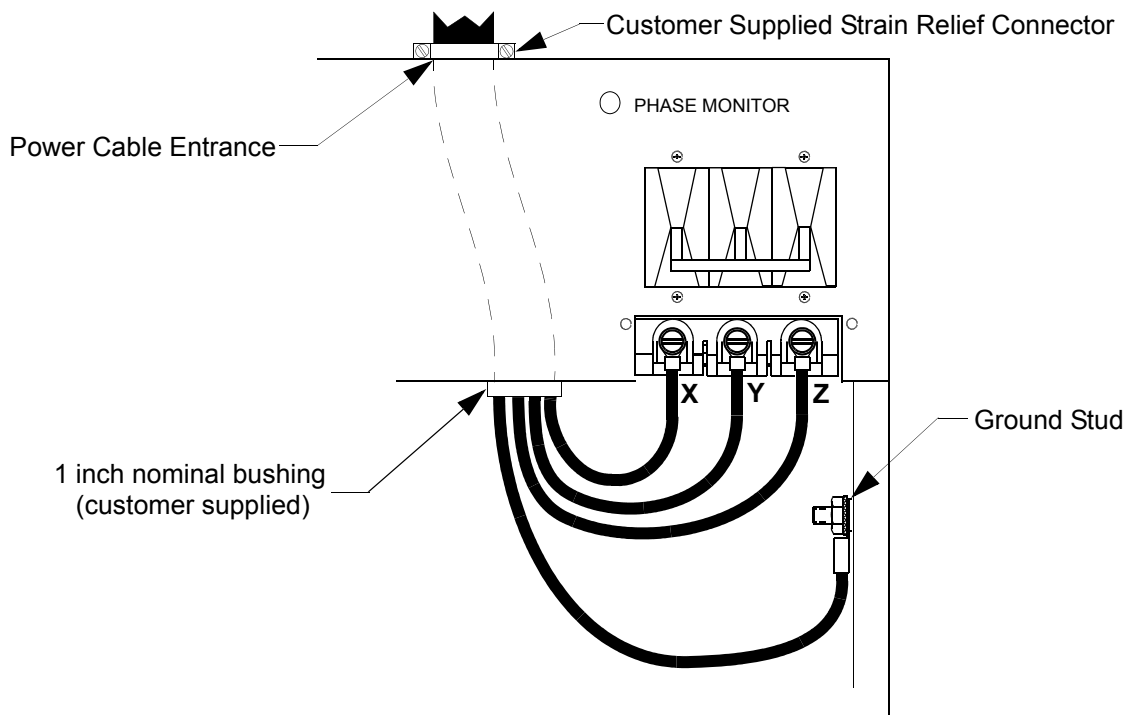

Figure 4-3: Power Cord Installation
- Install the cable into the High Capacity Helium Compressor through the customer provided strain relief then through the lower hole as shown in Figure 4-3.
10. Install the conductor terminal lugs to the circuit breaker terminals X, Y, and Z as shown in Figure 4-3.